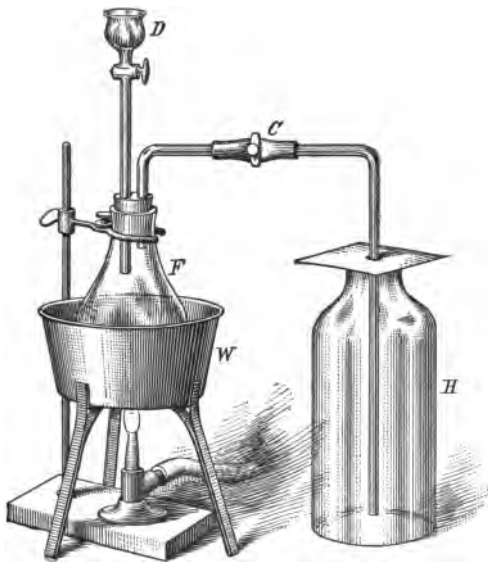

FIG. 23.
**18. Preparation in Larger Quantities.** — Put into a 200 cc. flask, *F*, a small handful of sodium chloride, and cover with strong hydrochloric acid. Fit the flask with a 2-hole rubber stopper and arrange the apparatus as shown in Fig. 23. Partly